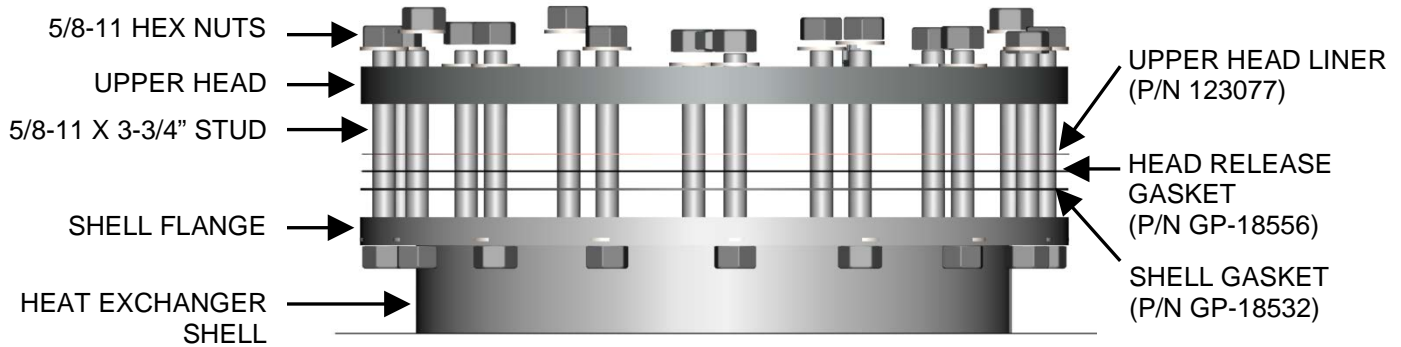

Figure 6-7. Heat Exchanger Head Configuration
The waterside of the heating surfaces may be inspected by removal of the top heater head (see Figure 6-7). Prior to performing the inspection, ensure that the following replacement gaskets are available:
4. Referring to see Figure 6-7, below, remove the 5/8-11 hex nuts and washers from the upper head, and then remove the upper head, upper head-liner and gaskets.